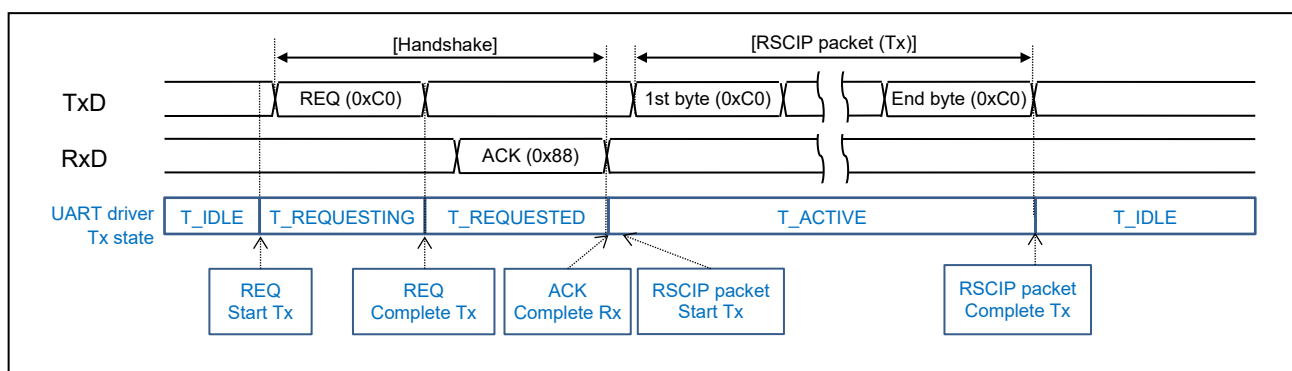

Figure 3-4 Host MCU has not received RSCIP packet from the module
- (a) Host MCU has not received RSCIP packet from the module (Figure 3-4)